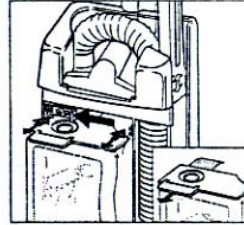

Figure 7
5.1 Replacing the paper filter bag <Figure 7>